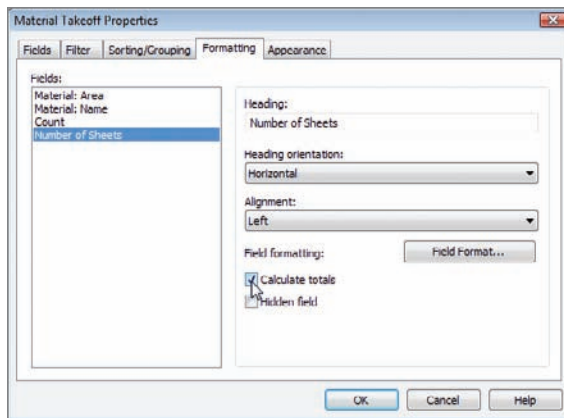

FIGURE 11.36 Clicking the Calculate Totals option
9. Click the Formatting tab, as shown in Figure 11.36.
11. In the Field Formatting section, click Calculate Totals, as shown in Figure 11.36.